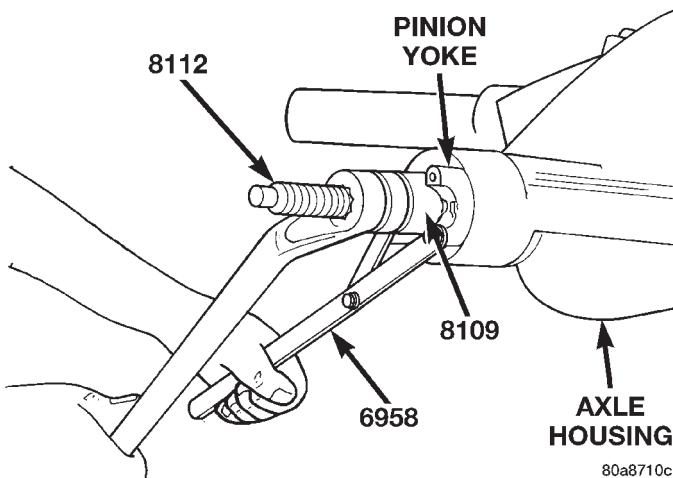

Fig. 8 Pinion Yoke Installation
(4) Install yoke on the pinion gear with Screw 8112, Cup 8109, and Holder 6958 (Fig. 8).